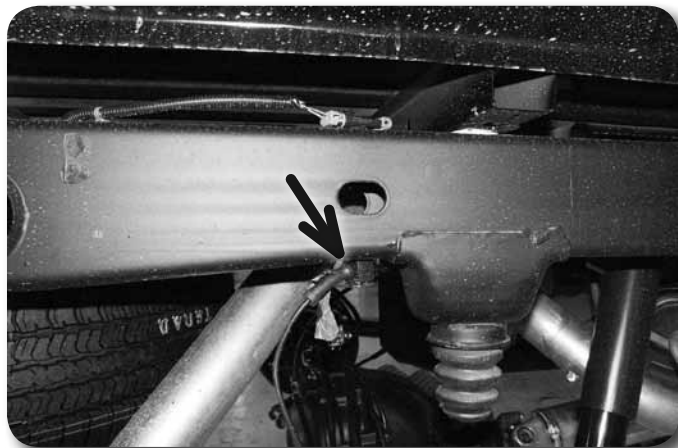

Figure 2
5. Remove the ABS lines from the retaining clip on the bottom of each frame rail. **Figure 2**.